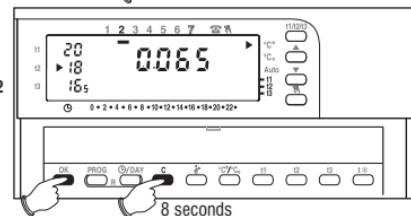

Fig. 42
- To reset the total hours of operating from the beginning of the season: keep **C** pressed for at least 8 seconds until the 24 hr temperature range goes off, then press **OK** simultaneously (Fig. 42). **0000** will appear on the display (the counter that counts the boiler's total hours of operating is reset). Release **C** and **OK**.